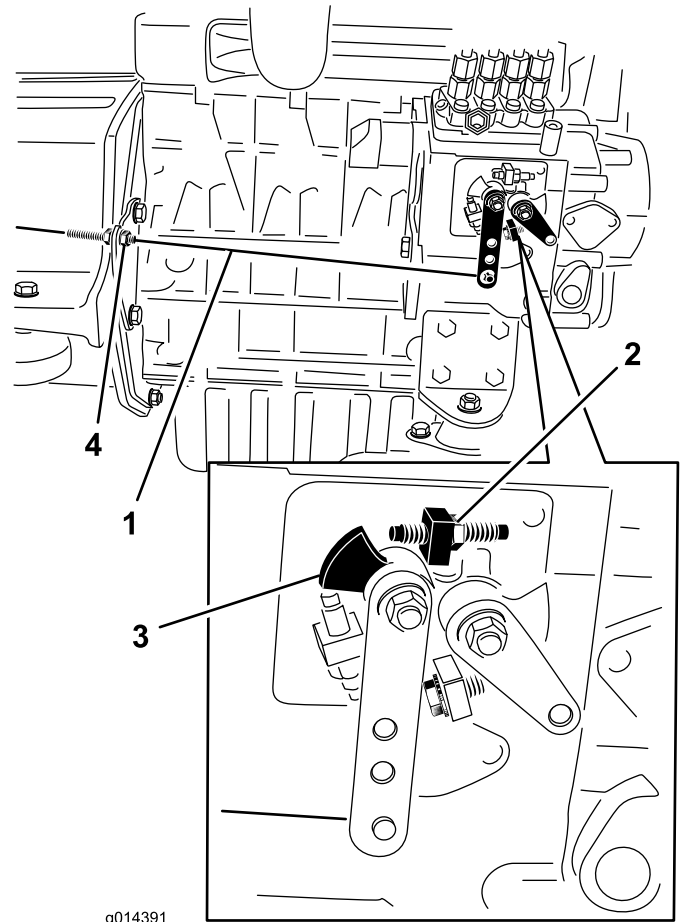

Figure 35
- Check the position of the speed control lever on the engine fuel injection pump. The speed control lever should be contacting the high speed screw when the throttle control lever is in the FAST (detent) position (Figure 35).
- If necessary, the position of the throttle control cable jam nuts can be adjusted until speed control lever contacts high speed screw when throttle control lever is at FAST (detent) position (Figure 35). **Do not adjust the high speed screw on the speed control lever.**